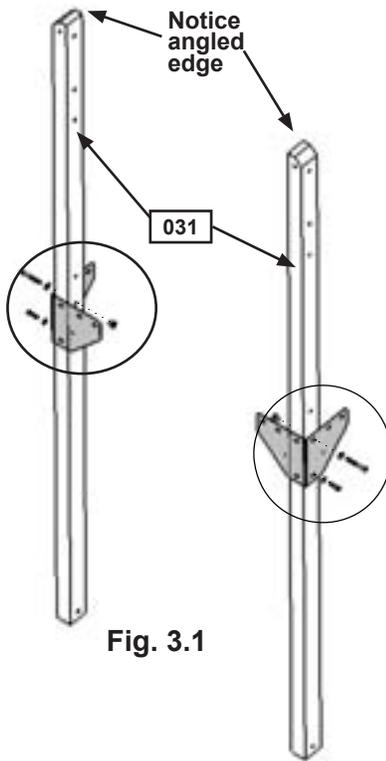

Fig. 3.1
**Note: The top angles of the Posts are on the opposite side of the Large Corner Gusset side that has been attached. (fig. 3.1)**